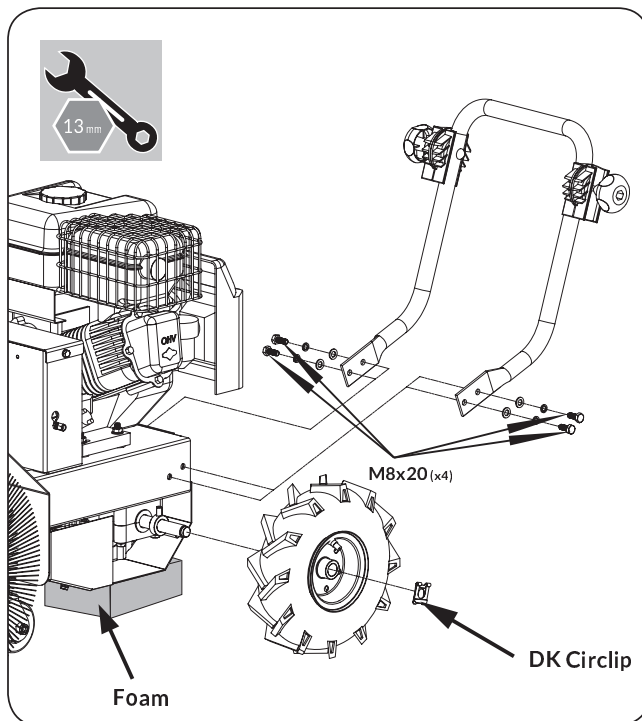

Figure 2
3. Remove the foam. (See **Figure 2**)